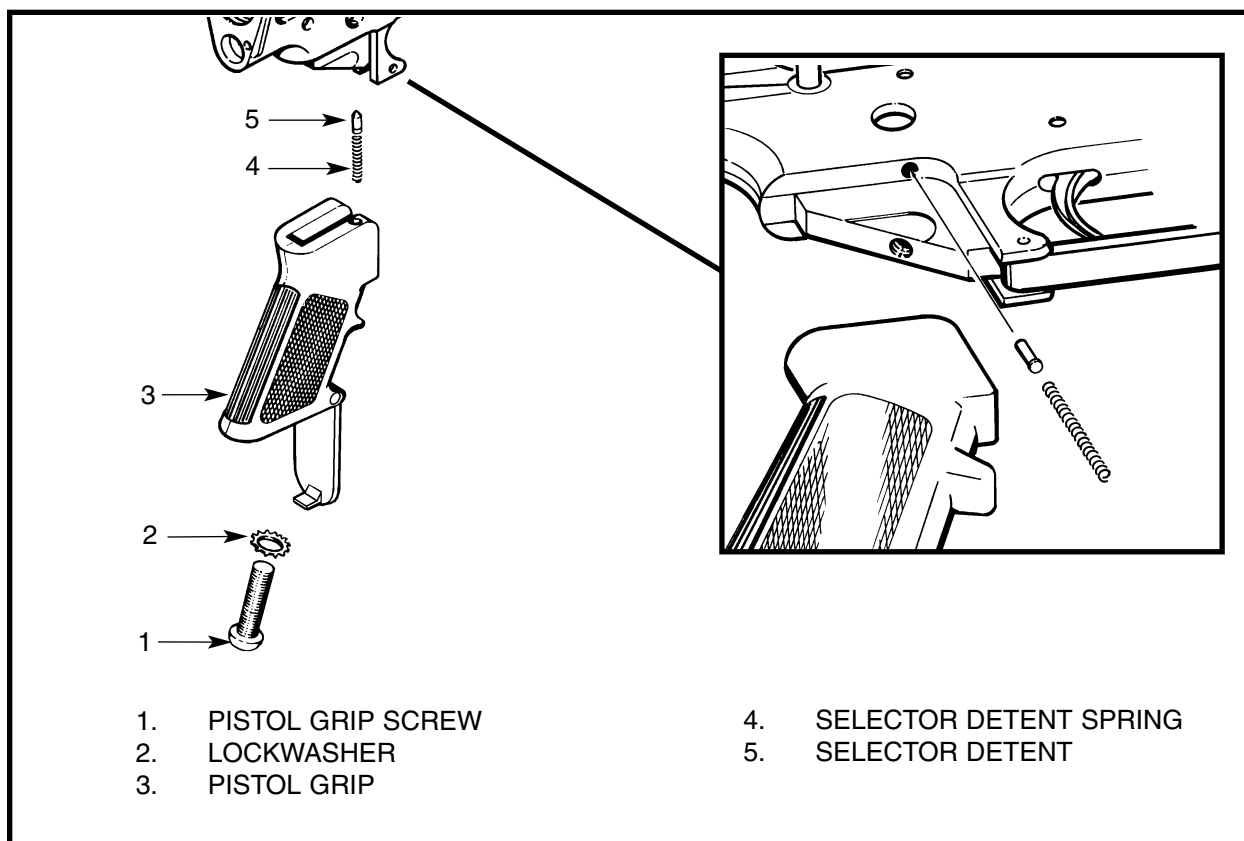

Figure 3-2-39 Removing the Pistol Grip
40. **Removal.** To remove the pistol grip, see Figure 3-2-39 and proceed as follows:
- a. Using a suitable screwdriver, remove the pistol grip screw (1) and lockwasher (2);
- b. Carefully withdraw the pistol grip (3) and take control of the selector detent spring (4);